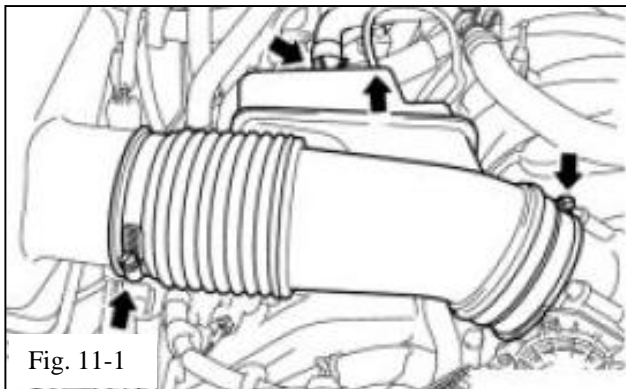

Fig. 11-1
- (1) Disconnect the vacuum and ventilation hoses and loosen the 2 clamps (Fig. 11-1).
- (2) Discard the hose and clamps.